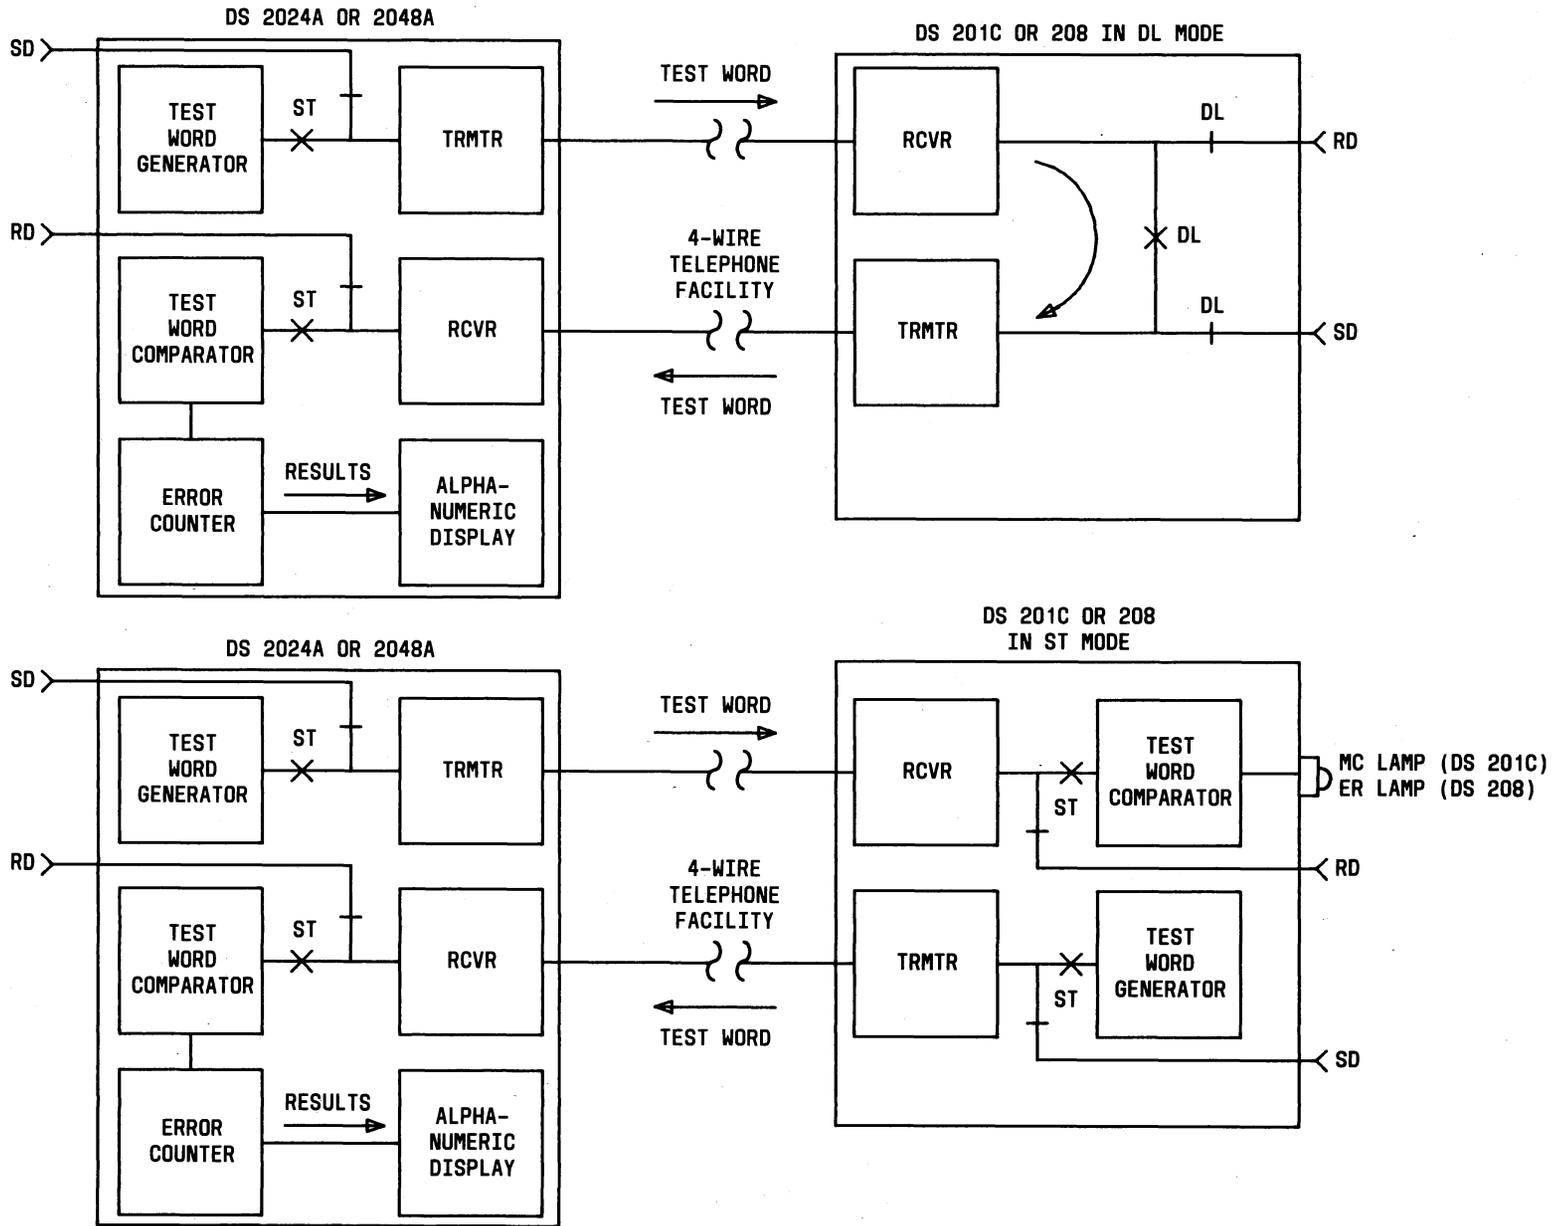

Fig. 27—Self Test
**3.81** This test (Fig. 27) is intended to allow DATAPHONE II service data sets to perform digital loopback tests with DS 201 and 208. To perform ST the DS 201 or 208 DL or ST switch is depressed and ST is initiated at the DATAPHONE II service data set.